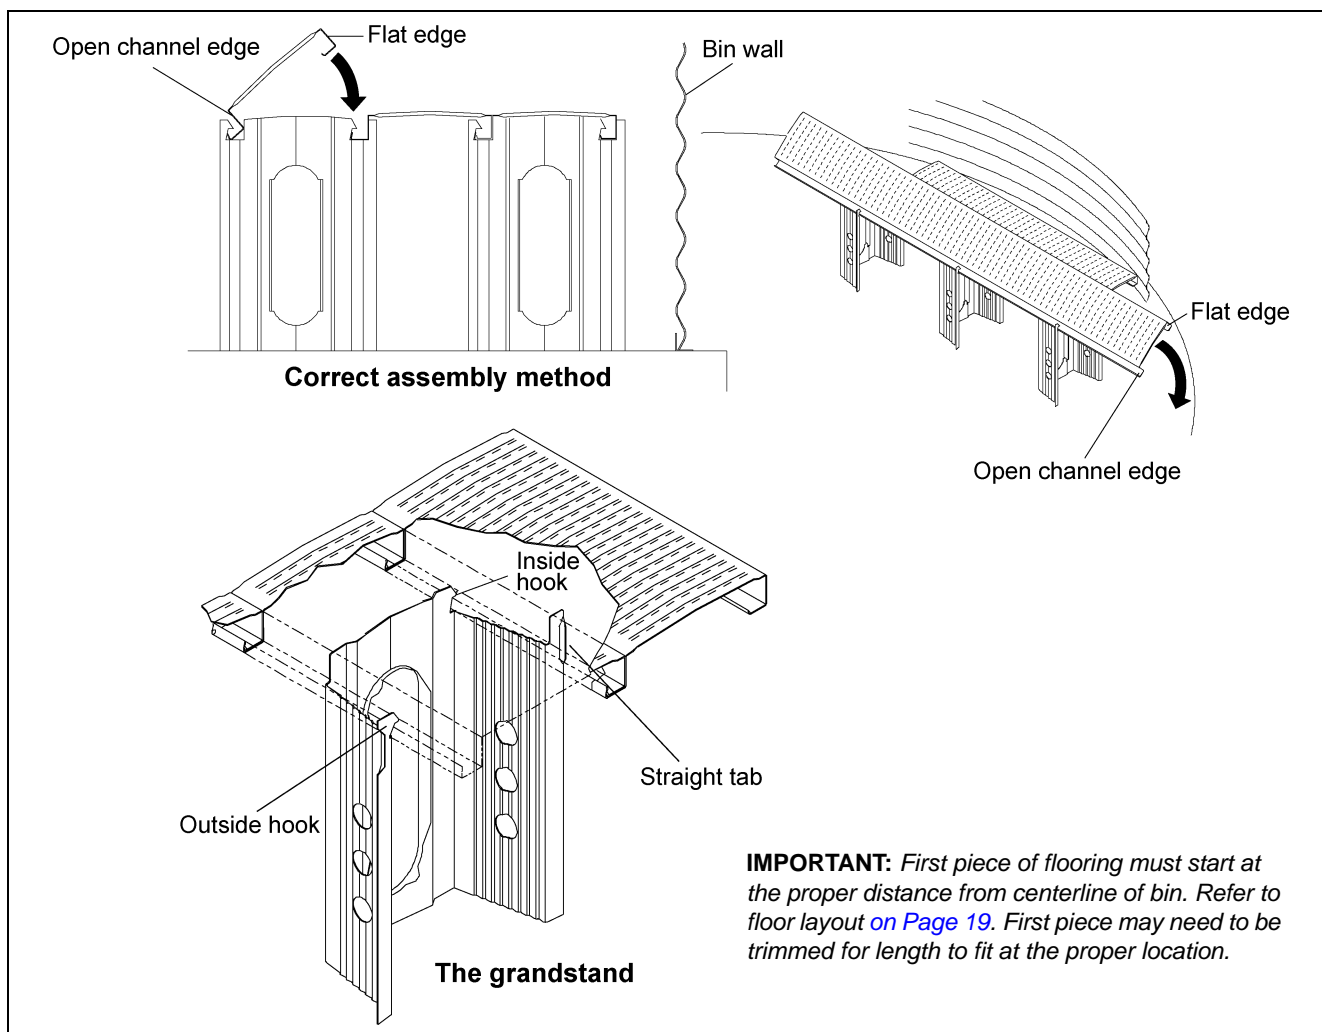
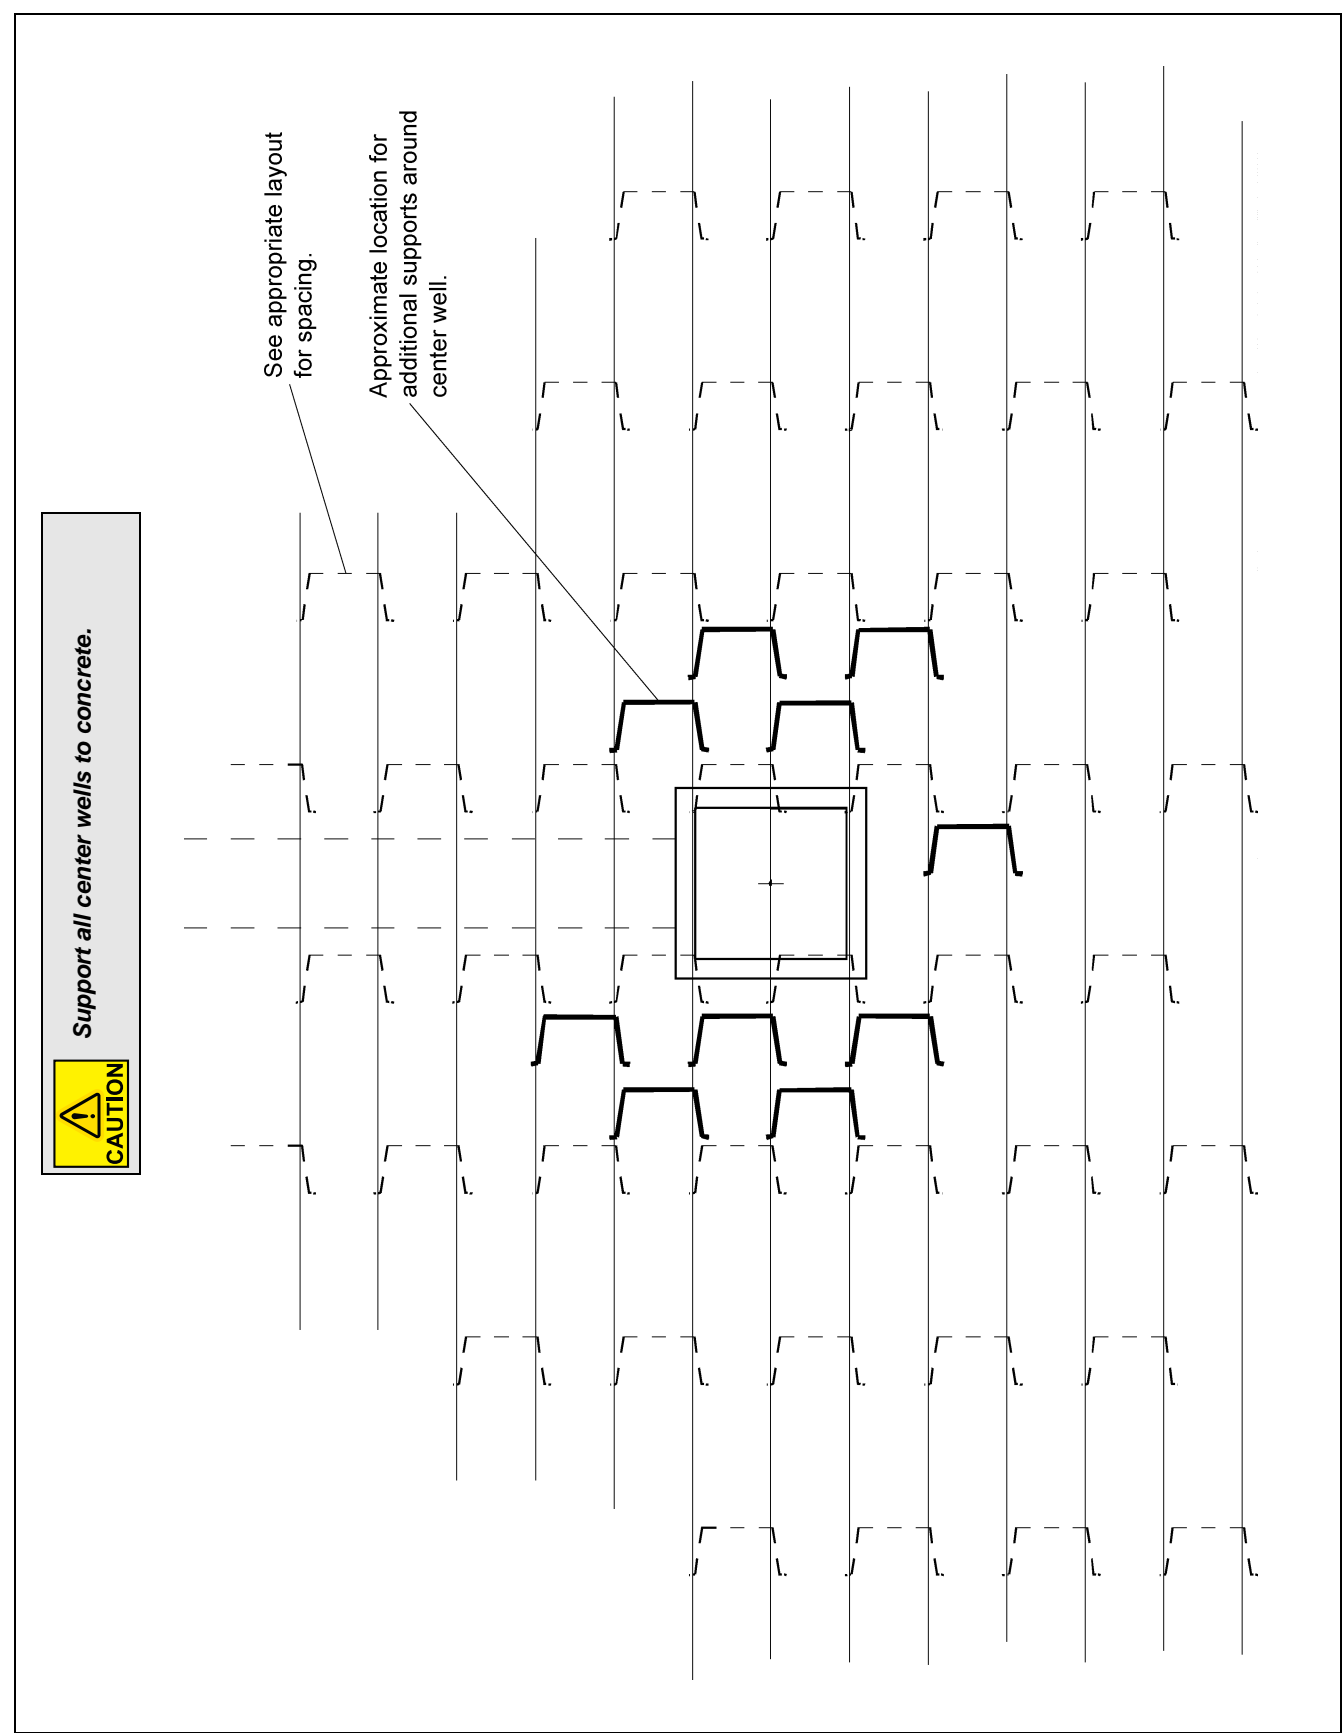

Figure 4C
Figure 7A
4. Install flooring starting at the bin wall on the opposite side of the unload auger. Floor planks should be placed perpendicular to the unload auger with the outside edge the correct distance from the center of the bin. (See Figure 8A on Page 19.) Be sure the flat edge of the floor plank is facing the bin wall and the open channel edge is facing towards the center of the bin. (See Figure 4C.) Position the supports for the first/shortest floor plank according to the number of bin rings and corrugation as shown in the illustrations on Pages 20-28 or stated in the charts on Pages 29-30. Attach the flashing to flooring and bin wall to hold plank in place. (See Page 17 for flashing installation.)
5. **POSITION THE NEXT ROW OF SUPPORTS ACCORDING TO THE CHALK LINES** and support layout. The straight tab should “snap” under the first (previous) floor piece. After the supports in the row are correctly positioned, install the next floor piece by hooking the open channel edge under the outside hooks of the floor supports. Push down sharply on the edge of the floor piece until it snaps into the previous floor piece. (See Figure 4C.) Continue this process for the rest of the floor cutting planks for center and intermediate wells as needed. See Figure 7A on Page 18 for center well support locations.